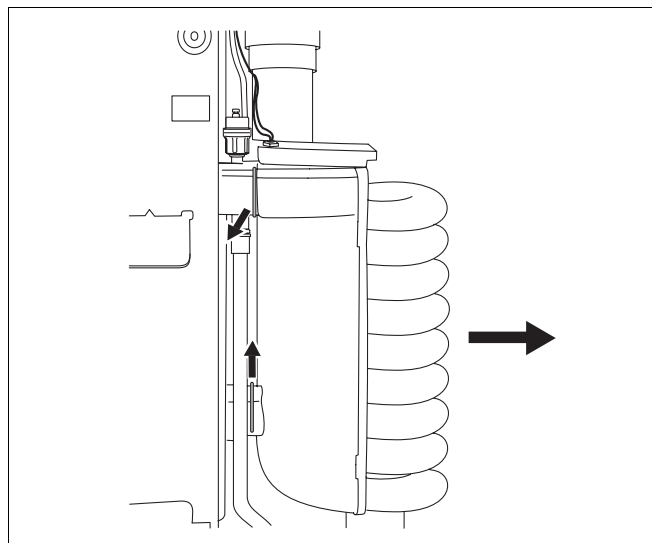

Fig. 48 Securing pin on spiral heat exchanger
- Remove securing pin on flow and return flow conduit (fig. 48) of heat exchanger.
- Remove spiral heat exchanger by pulling towards front (fig. 48). Drain any water remaining in the heat exchanger into the condensate trap.